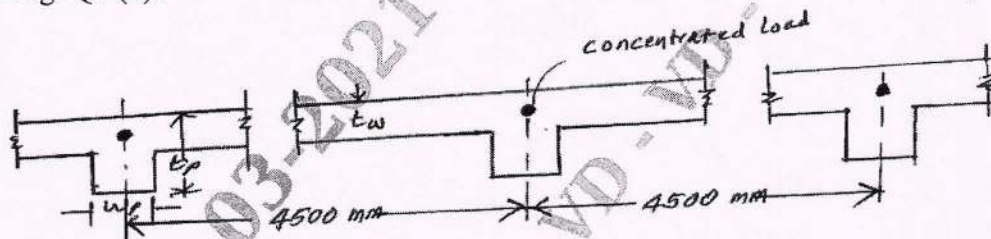

Fig. Q7 (b)
- Refer Fig. Q7 (b). (14 Marks)